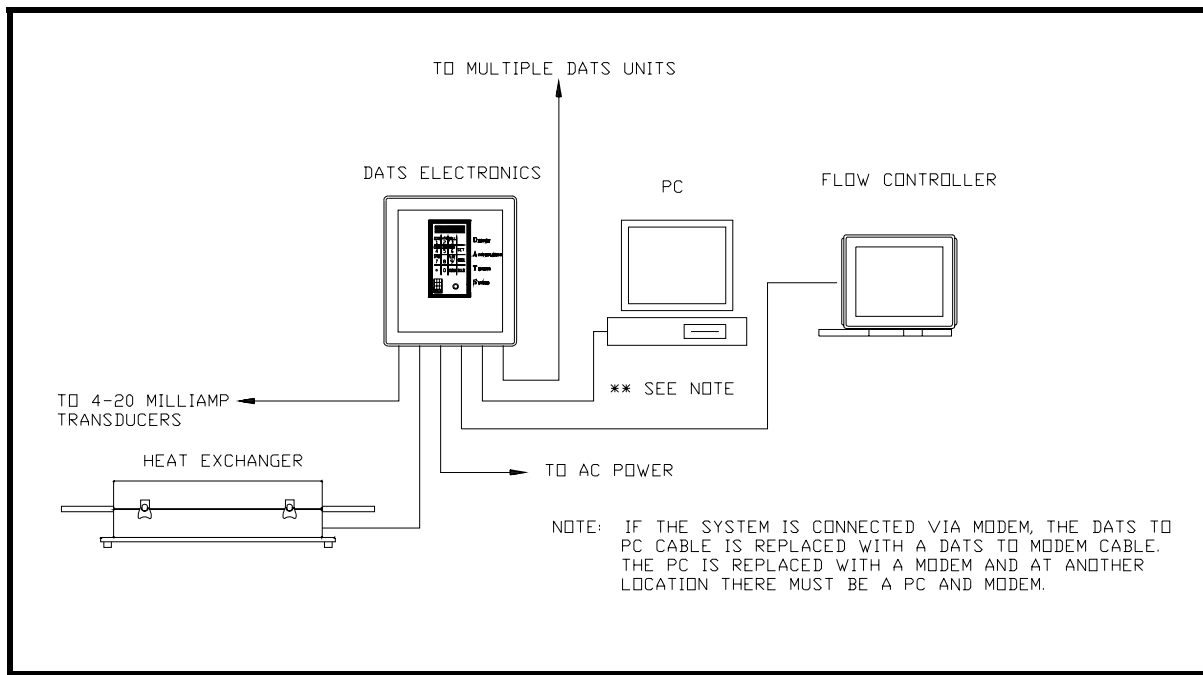

Figure 3. DATS™ Electrical Connections
Each Heat Exchanger unit and Flow Controller pair requires a **dedicated** 120(240) VAC, 15(7.5) amp **ground fault** interrupted line. Other large fluctuating loads on the same bus will interfere with **DATS™** operation. Figure 3 indicates the external electrical connections for the **DATS™**.